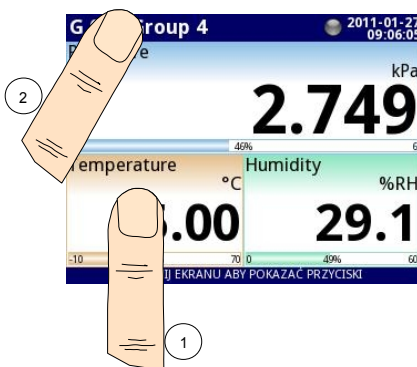

Fig. 6.4. Methods for direct entry to **Logical channel** configuration (1) and **Group** configuration (2)
To enter directly into the configuration menu of particular **Logical channel**, press and hold screen over the channel data panel for 3-4 seconds (see option (1) in the Fig. 6.4 entering configuration of the **logical channel** named '**Temperature**'). Similarly to go directly to configuration of displayed **Group**, touch and hold the **group number** or **group name** in the upper **Information bar** for a few seconds (see option (2) in the Fig. 6.4 entering configuration of the **Group** named '**Group 4**'). In both cases if a password is set (see **Chapter 7.16. ACCESS OPTIONS**) then the user has to enter the password before entering the configuration.